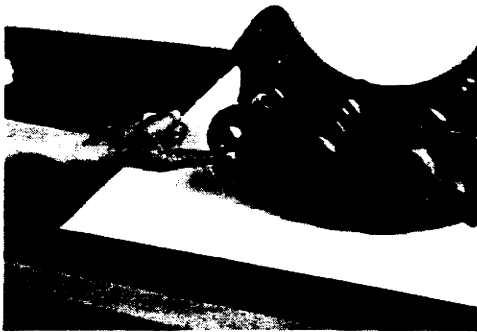

Fig. 3-17
- (6) Grease torque pin (3) and the inside of torque pin holes evenly when installing torque pin (3) and bolt (2). (See Fig. 3-17.)